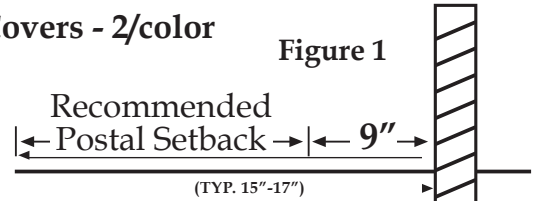

Figure 1
- 2) From post office recommended road setback line add 9" and mark position on ground for front edge of post. (See Figure 1)
2) From post office recommended road setback line add 20.5" and mark position on ground for front edge of post. (See Figure 1)